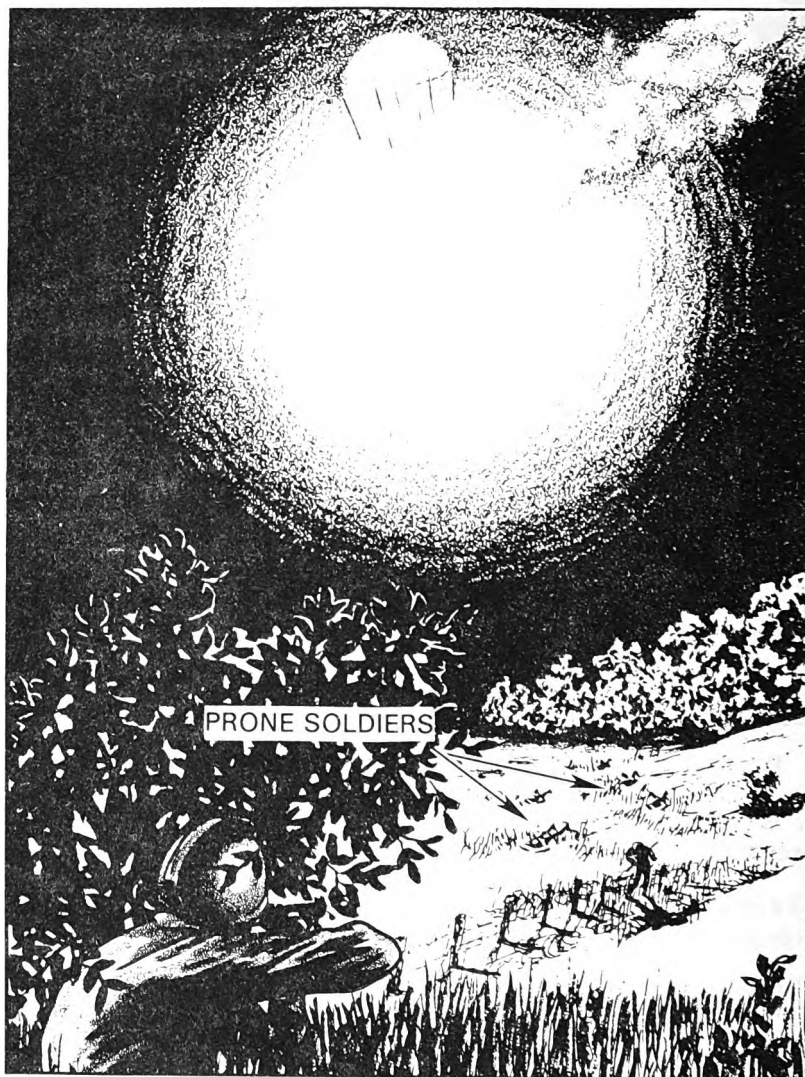

Figure 1.
- a. Get into the prone position, making maximum use of nearby cover, concealment, and shadows until the flare burns out. Close one eye to protect your night vision; observe with the other. (See figure 1.)